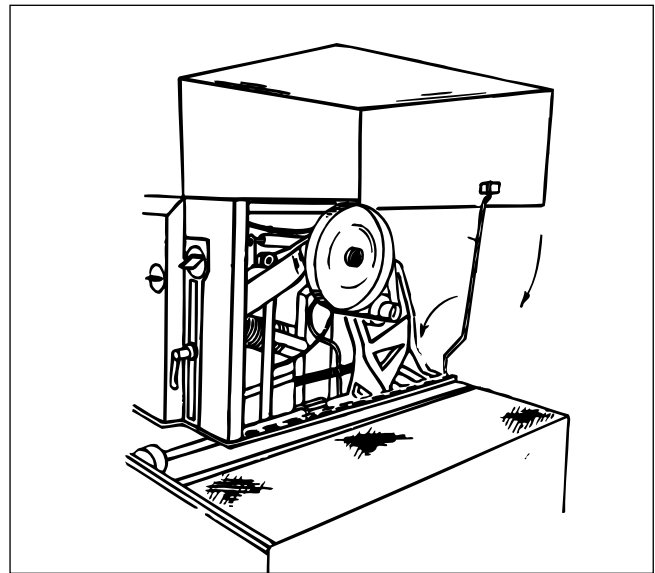

FIGURE 1-3, Hood Prop
7. Open machine covers use a 4mm hex key wrench to release quarter turn latch near rear corner of each cover. Place hood prop securely into bracket on hood to hold it open (see Figure 1-3).